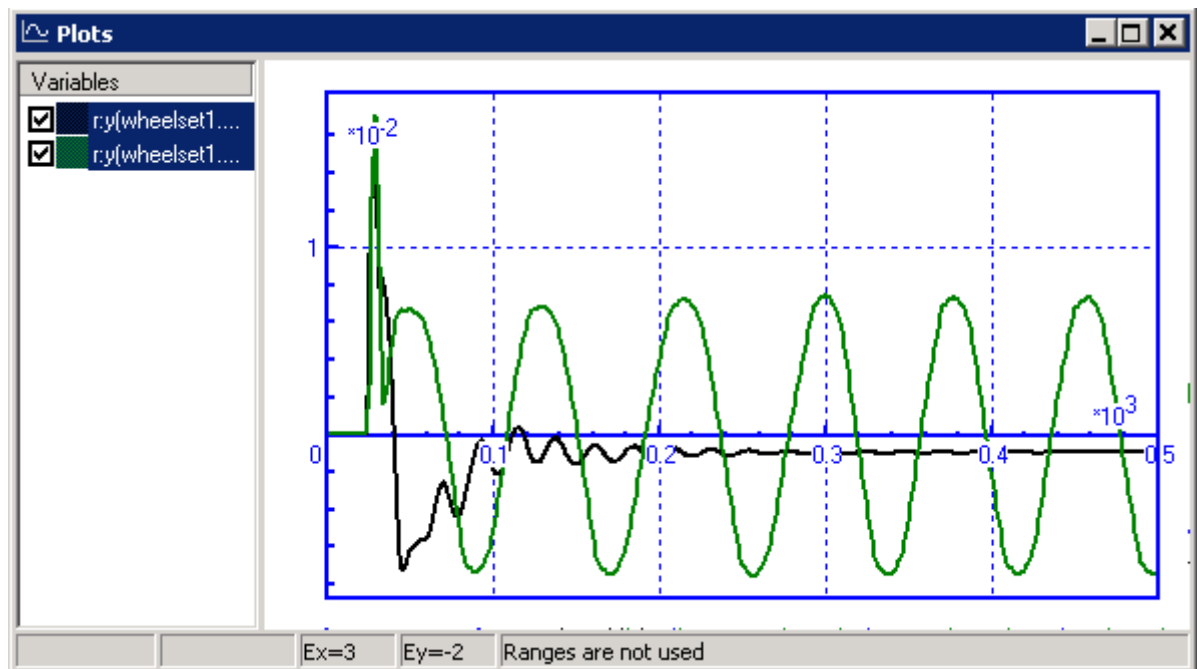

Figure 3.18. Lateral oscillations of the first wheelset
6. Select another experiment – “**v0 = 90**” and drag the same **r:y(wheelset1.wset)** variable to the graphical window, see Fig. 3.18.
It is quite clear, Fig. 3.18, those lateral oscillations that rose by singular lateral irregularity diminish in the long run at 30 m/s, but at 90 m/s reach maximum amplitude. In other words the railcar is stable at 30 m/s and instable at 90 m/s.